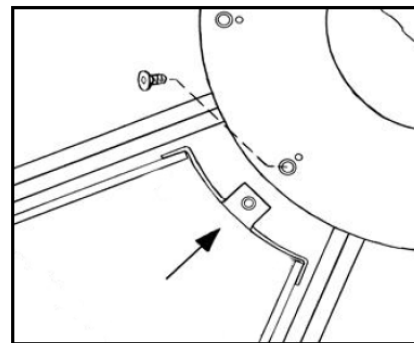

Figure 21 Nose entering hub plate (ERC 81-86 ONLY includes a screw).
- 5) For ERC-81 and ERC-86, use a 3/16-inch Allen wrench to remove the nose bolt securing the segment to the hub plate, Figure 21.
- 6) Remove segment by sliding outer portion of segment out first before disengaging the nose, Figure 21. A flathead screwdriver may be used to aid segment removal. Be careful not to bend the segment frame or wheel rim.
- 3) From the pulley side, slide segment into place nose first, Figure 21, then push outer portion of segment in to wheel frame. If you are installing an ERC-81 or ERC-86, use a 3/16-inch Allen wrench and the nose bolt to secure the segment to the hub.